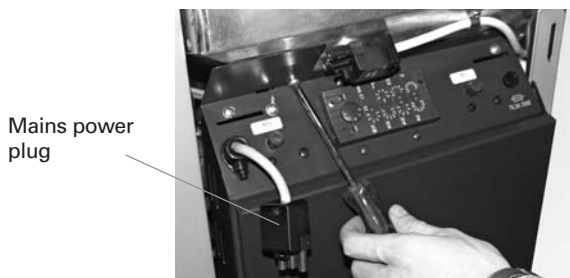

Fig. 148 Removing the power plug and screw
- Unhook the right side panel cladding and disconnect the mains power plug over the control panel – Fig. 148
- Remove the screw under the mains power plug on the control panel (Fig. 148) and swivel open the control panel.